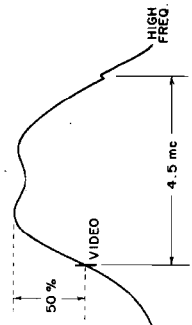

Figure 40. Ideal Response Curve
ator to the antenna terminals and adjust the generator until a response curve (may vary considerably from Figure 40) appears on the oscilloscope screen. The generator should have a balanced output; if it does not, connect it as shown in Figure 37.
7. Connect a signal generator (see Figure 37) to the antenna terminals and apply an 83.25-megacycle signal (channel 6 video-carrier frequency). A marker should appear on the oscilloscope (see Figure 40).